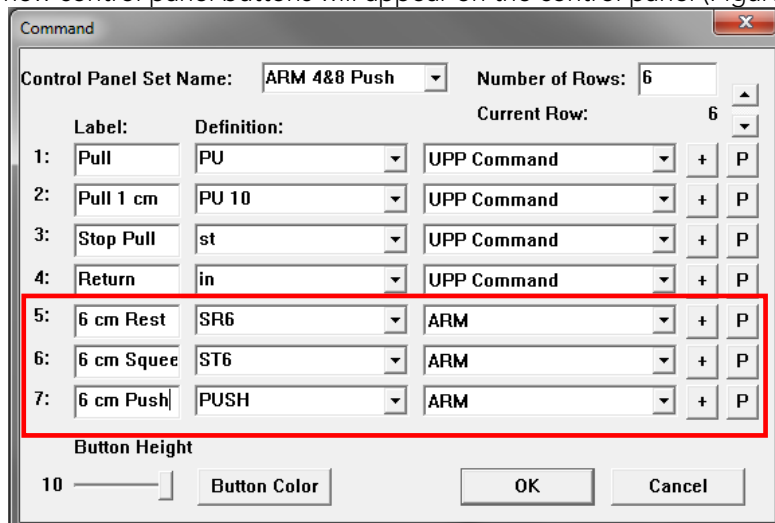

Figure 188: Command Window – Rest, Squeeze, and Push Events
9. Click **OK**. The two new control panel buttons will appear on the control panel (Figure 188).